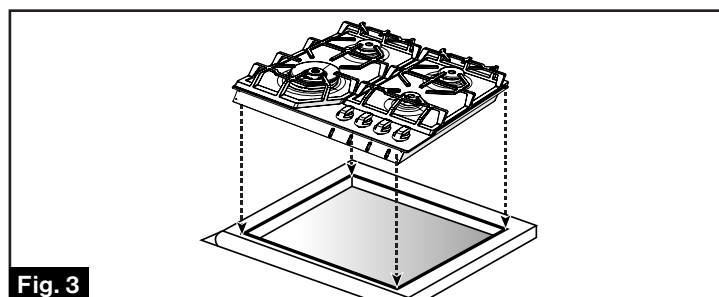

Fig. 3
- Place the cooktop in the worktop cut-out, making sure it is central. Press down on the sides of the gas cooktop until it is resting fully on the cut-out edges.(Fig. 3)